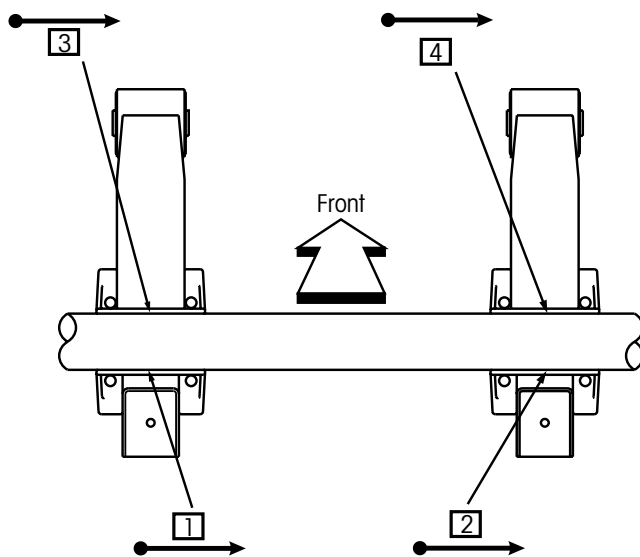

Figure 7: *Root pass sequence*
1. Beginning on the rear side of the axle/sear connection, place **four single root pass welds**, Figure 7.